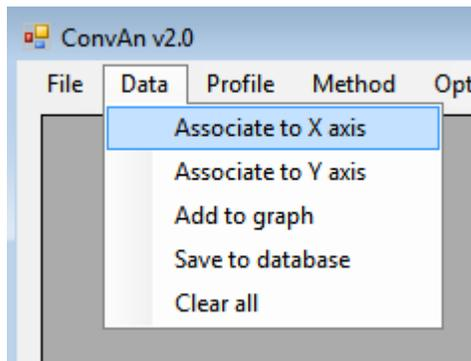
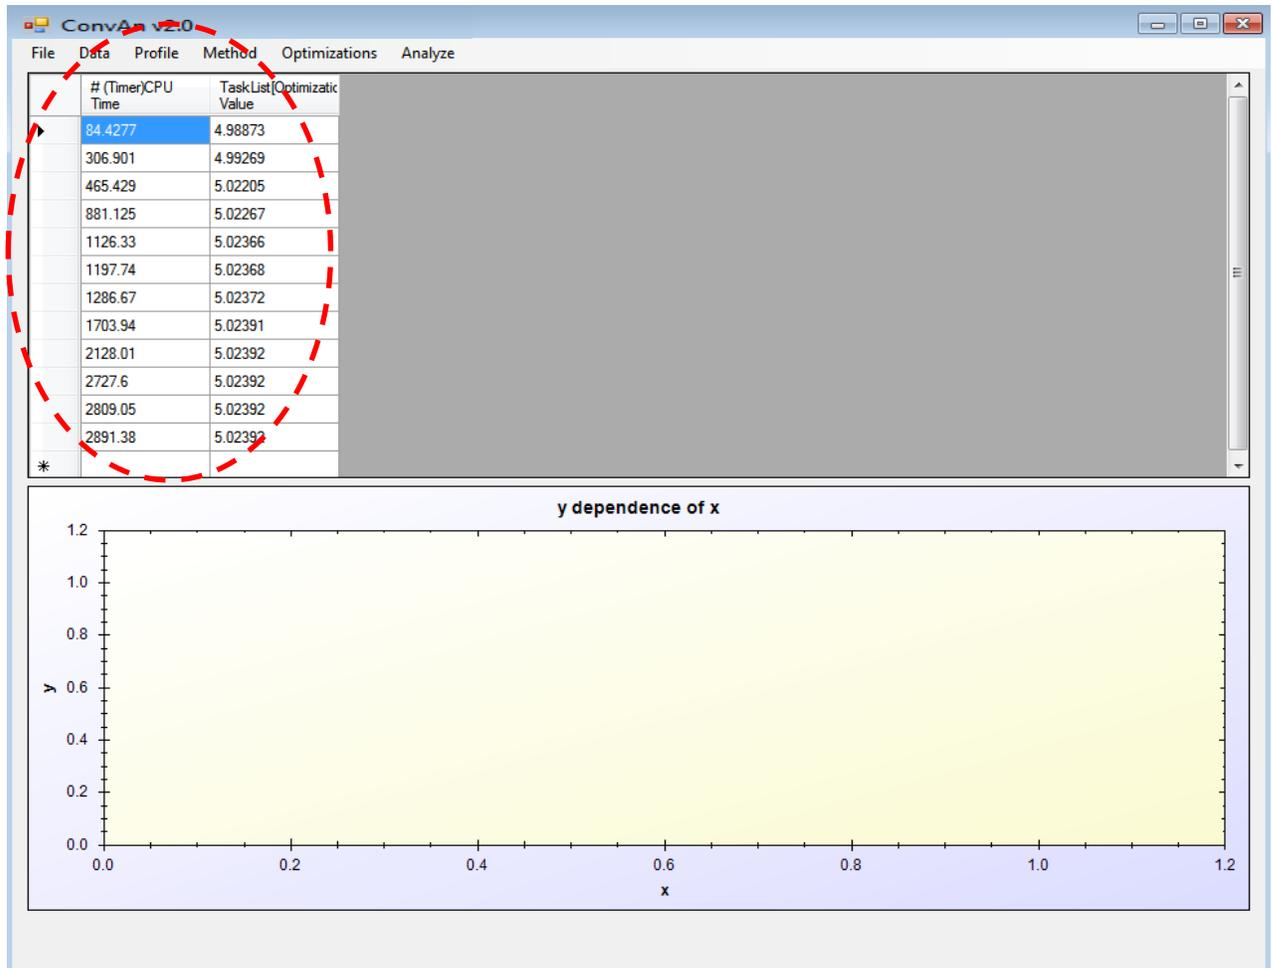
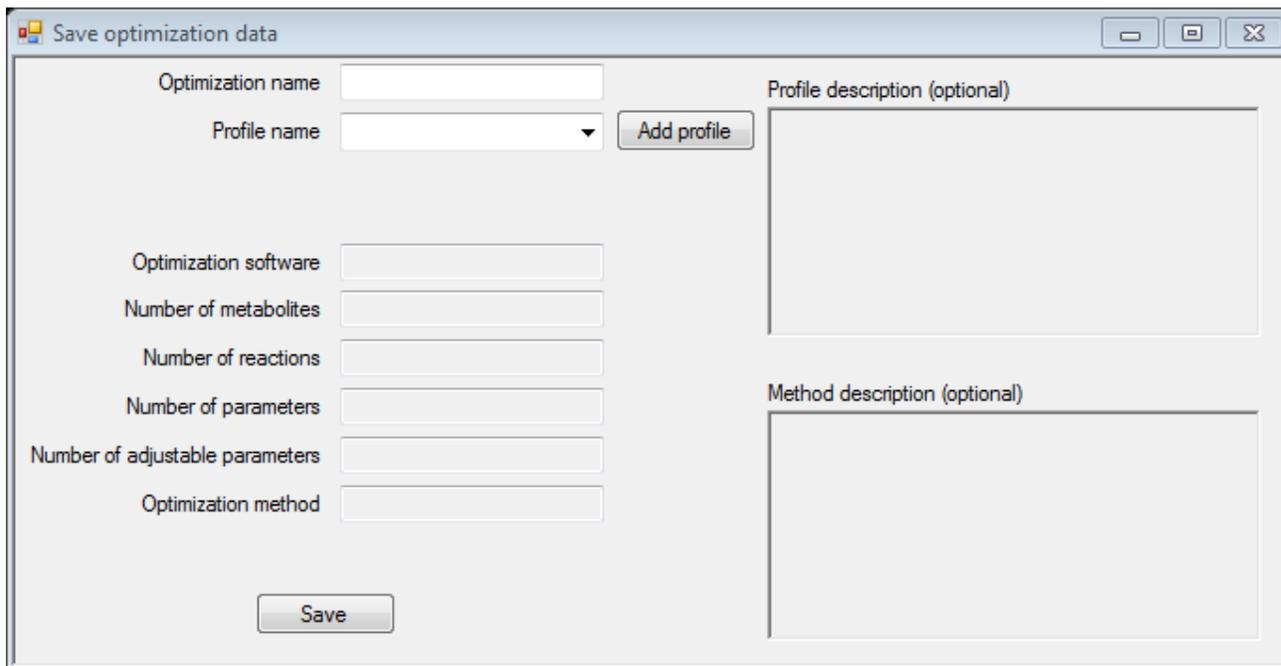

Figure 3. Lower level menu items of main menu item *Data* in ConvAn v2.0.
Figure 8. Sample data loaded into data *column viewer* in ConvAn v2.0.
Figure 13. The window “*Save optimization data*” in ConvAn v2.0.
The main menu item *Data* consists of 5 lower level menu items (see **Figure 3**):
In the loaded data *column viewer* are shown all the columns user had loaded before. From these columns user can choose what data series associate to X and Y axes (see **Figure 8**).
After actual column selection click the button “Next...” in order to load selected data into ConvAn v2.0. Data will appear in loaded data column viewer (see **Figure 8**).
The data represented in loaded data viewer (see **Figure 8**) can be stored in database. Firstly, it is necessary to associate one column for each graph axis by clicking on column header and then executing *Data* → *Associate to X axis* or *Data* → *Associate to Y axis* (see **Figure 3**).
Thirdly, it is necessary to connect chosen optimization data to particular profile. By execute *Data* → *Save to database* (see **Figure 3**) ConvAn v2.0 will open the new window – “*Save optimization data*” (see **Figure 13**), where user has to give the name to optimization and choose profile from already registered or have to create new one.
- from the window “*Save optimization data*” (see **Figure 13**).